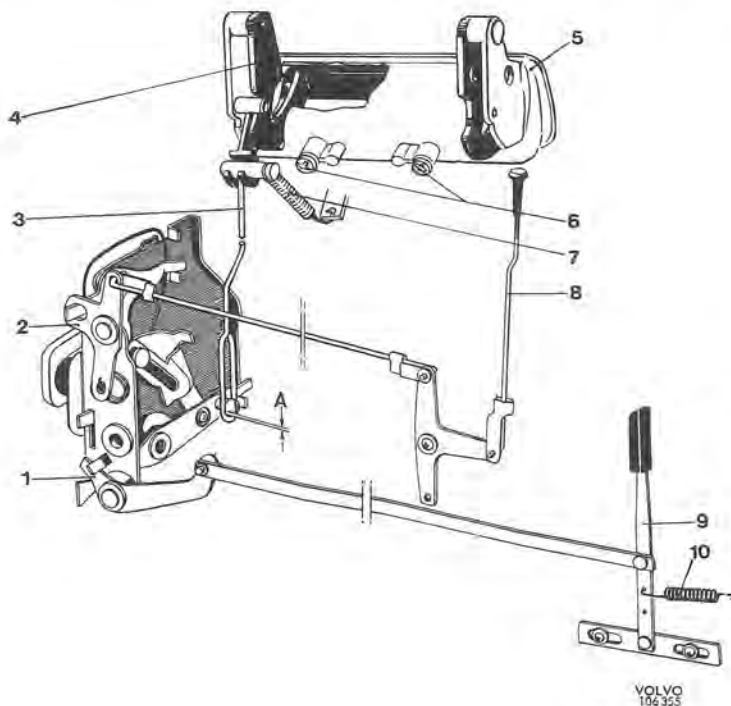

Fig. 8-14. Lock, rear doors
3. Unhook the return spring (7, Fig. 8-14).
4. Undo the screws (6, Fig. 8-14) and lift out the handle and cover as one unit.
1. Place the handle in position in the door and move the pull rod (3, Fig. 8-14) in the lifting arm for the handle.
2. Screw in the attaching screws (6, Fig. 8-14).
3. Check to make sure that there is a clearance (A, Fig. 8-14) of 1 ± 1 mm (0.04 ± 0.04 ") between the pull rod eyelet and pin in the lock lever.
4. Install the return spring (7, Fig. 8-14) and check that the lock functions properly.